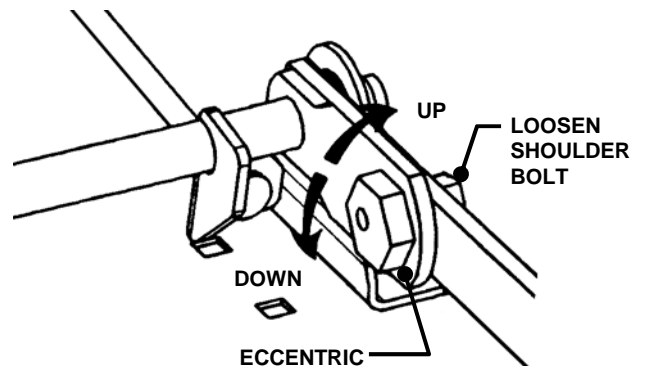

FIGURE 4.9
7. Turn eccentric "UP" or "DOWN" as required until blade tips are within 1/8" of the same distance from the floor. See Figure 4.9.